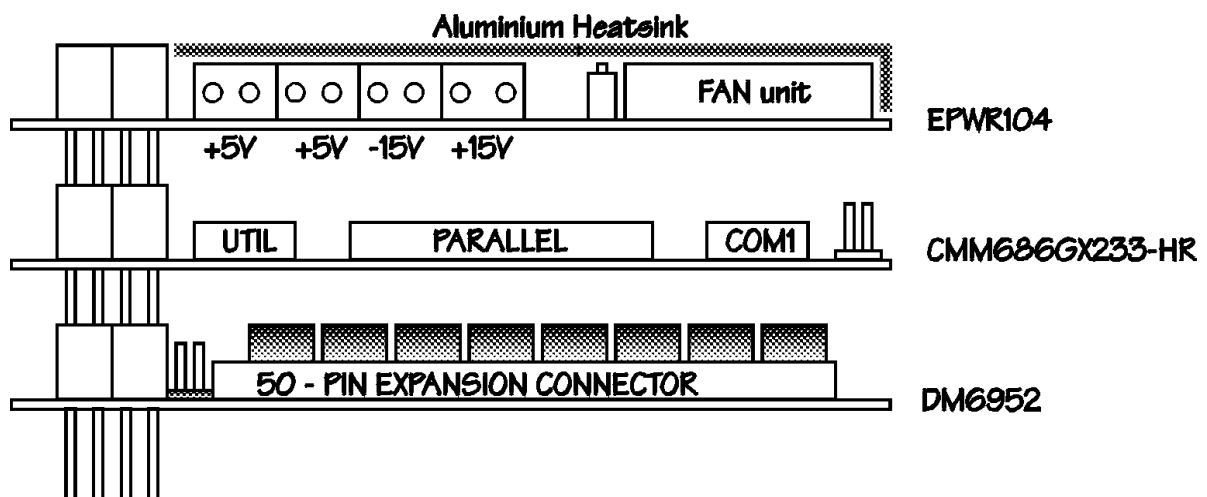

Fig. 3-1: DM6952HR integrated in a PC/104 RTD cpuModule stack
- Fig. 3-1: DM6952HR integrated in a PC/104 dataModule stack